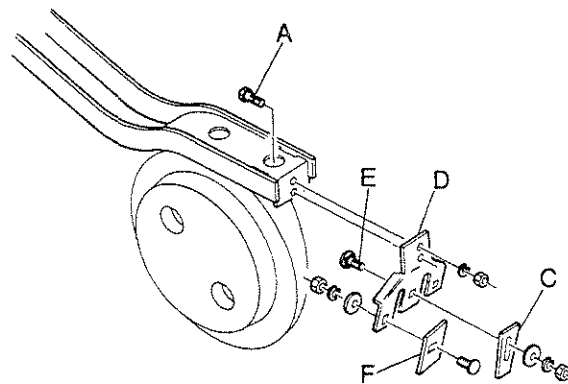

Figure 2
3. Reposition inside scraper (C) onto new scraper mount (D) with 3/8" x 1" long step bolt (E), washers and hex nut (see figure 2).
4. Reattach new scraper assembly to opener frame with 5/16" x 1" long hex bolts (A), washers and hex nuts. **BE SURE ANGLE OF NEW SCRAPER MOUNT (D) POINTS INWARD TOWARD CENTER OF OPENER DISK.**
5. Install scraper blade (F) on each wing of scraper mount (D) with 5/16" x 3/4" long carriage bolt, washers and hex nut. Adjust scraper blades to have **MINIMUM CLEARANCE** with disk opener and rubber-tired depth-control wheel.